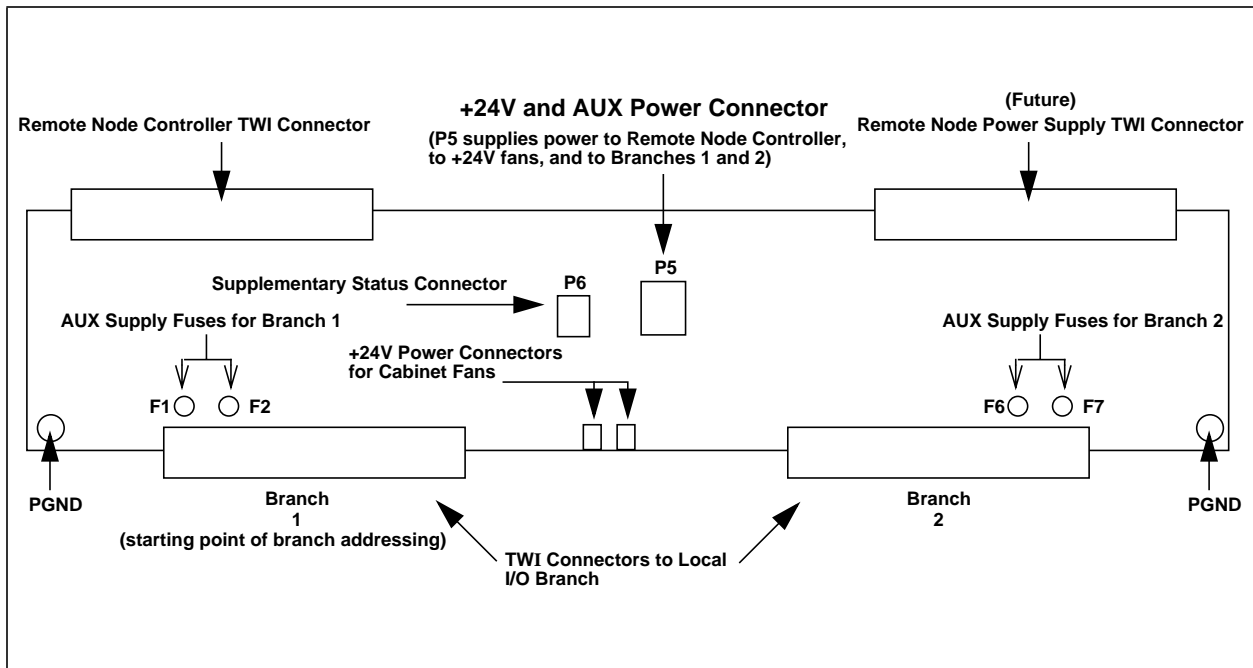

Figure 27-7. Remote Node Transition Panel (TND)
- Remote Node Transition Panel (TND - 4D33924) - Interconnects the RNC base, Remote Power Supply Module (if used), and the branches of local I/O in a single Remote Node cabinet. The Remote Node Transition Panel (TND) also provides connectors for DIN Rail Mounted +24V Supplies or auxiliary supplies to be wired into the remote node (refer to Figure 27-7).